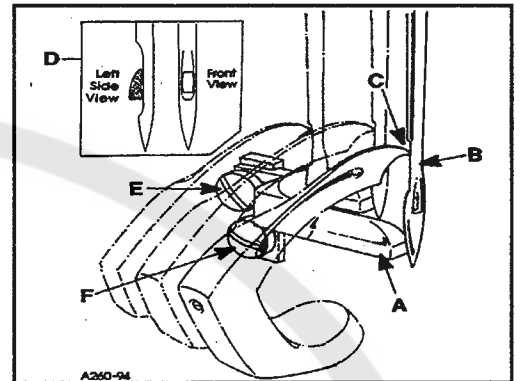
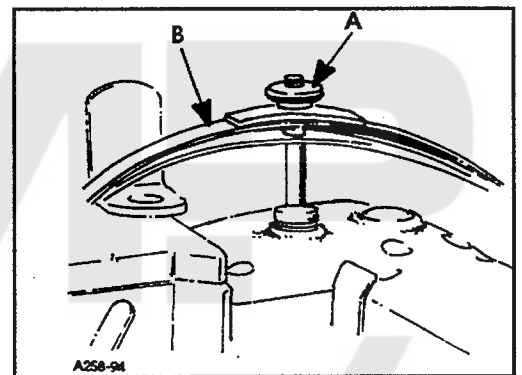
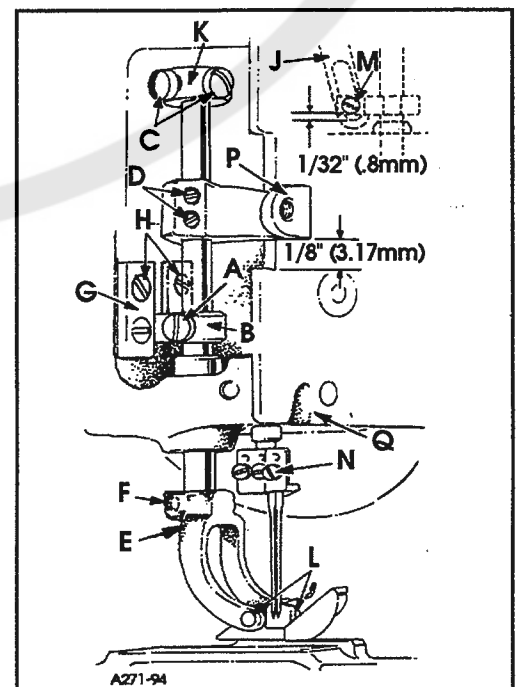

FIG. 13
FIG. 14
FIG. 15
Set the rear needle guard (A, Fig. 13) horizontally so that it barely contacts needles (B) when at its extreme forward position. If adjustment is necessary loosen screw (E) and move guard front to back as required. It should be set vertically as low as possible, yet have its guarding surface in contact with the needles until the points of the loops (C), moving to the right, are even with the right side of the needles. If adjustment is necessary loosen screw (F) and move guard and holder up or down as required.
NOTE: When installing needle it should be parallel with the eye in line of feed. If adjustment is necessary, loosen screw (N, Fig. 15) in needle head and rotate needle to attain adjustment (D, Fig. 13).
Remove presser bar leaf spring (B, Fig. 14) and nut (A). Loosen screw (A, Fig. 15) on presser bar guide (B). Loosen screws (C) in upper collar and screws (D) in needle lever thread pull-off lever. Slide presser bar upward high enough to slip on presser foot yoke (E) with foot attached and tighten screw (F) on flat of presser bar. Position foot so that the needle holes in the foot line up with the holes in the throat plate. Tighten screw (A)
With foot properly aligned on throat plate and presser bar guide (B, Fig. 15) securely fastened to presser bar, adjust both guide plates (G) to attain above setting. Tighten four screws (H).
Reinstall presser bar leaf springs (B, Fig. 14) and nut (A), with presser foot resting on throat plate.
NOTE: There should be a minimum 1/32" (0.8mm) clearance between screw (M, Fig. 15) and the bottom of the slot in link (J).
Regulate the pressure on the presser foot same as the upper feed roller by turning the presser spring regulating nut (A, Fig. 14) located on top of leaf type spring (B) at the rear of machine.
To remove just the presser foot, remove screws (L, Fig. 15) and replace foot, retighten screws (L).